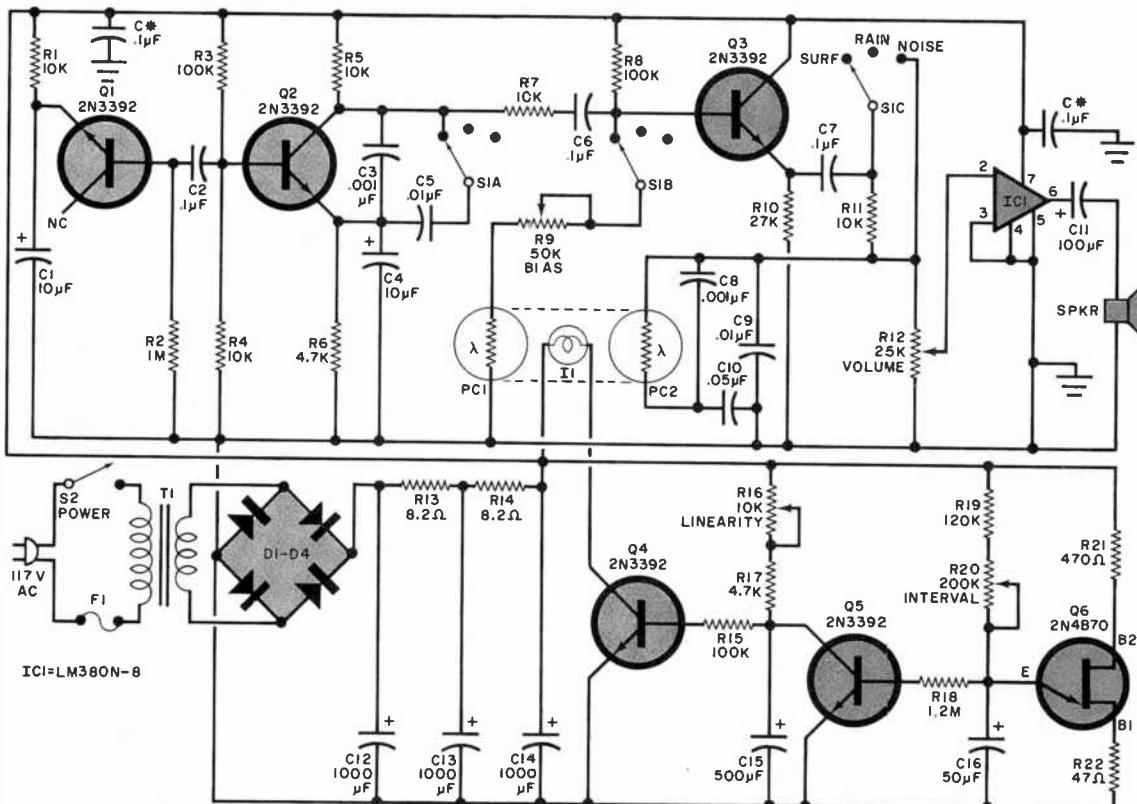

Fig. 1. White noise generated in *Q1* is amplitude-modulated and filtered to produce different sounds.
Fig. 1. In basic PWM, switch  $S$  is toggled to create dc pulse train across the motor. The longer time  $T_{ON}$  is, the higher the average voltage across the motor and the faster the motor turns.
A train of pulses much like the waveform shown in Fig. 1 appears at the output of the timer IC. The  $T_{OFF}$  interval corresponds to the time that pin 3 is low, and the  $T_{ON}$  interval corresponds to the period that pin 3 is high. Substituting our component labels for those found on manufacturer's 555 data sheets, we find that:
**About the Circuit.** Transistor *Q1* in Fig. 1 serves as a white-noise source by virtue of its being operated in the re-
## PARTS LIST FOR FIG. 1